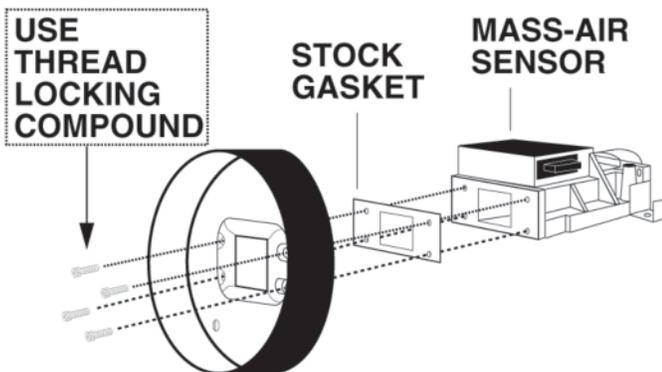

fig. 1
- 9) Install the adapter, with the stock gasket onto the mass-air sensor, using the allen bolts provided. (see fig. 1) Use a thread locking compound and do not over-tighten the bolts.